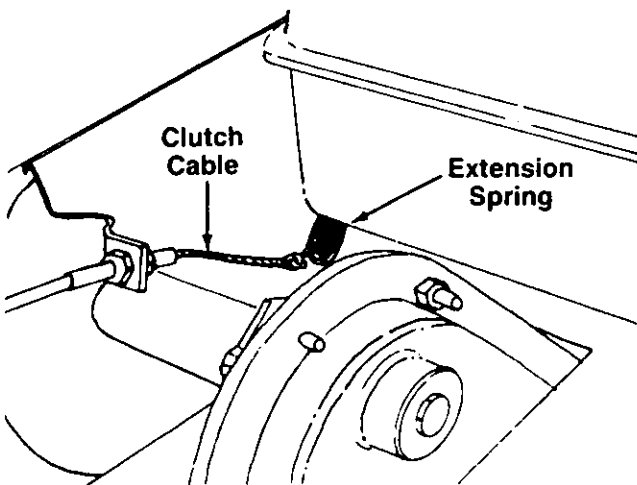

FIGURE 14.
17. Hook the end of the clutch cable (already attached to the tiller) over the extension spring as shown in figure 14.